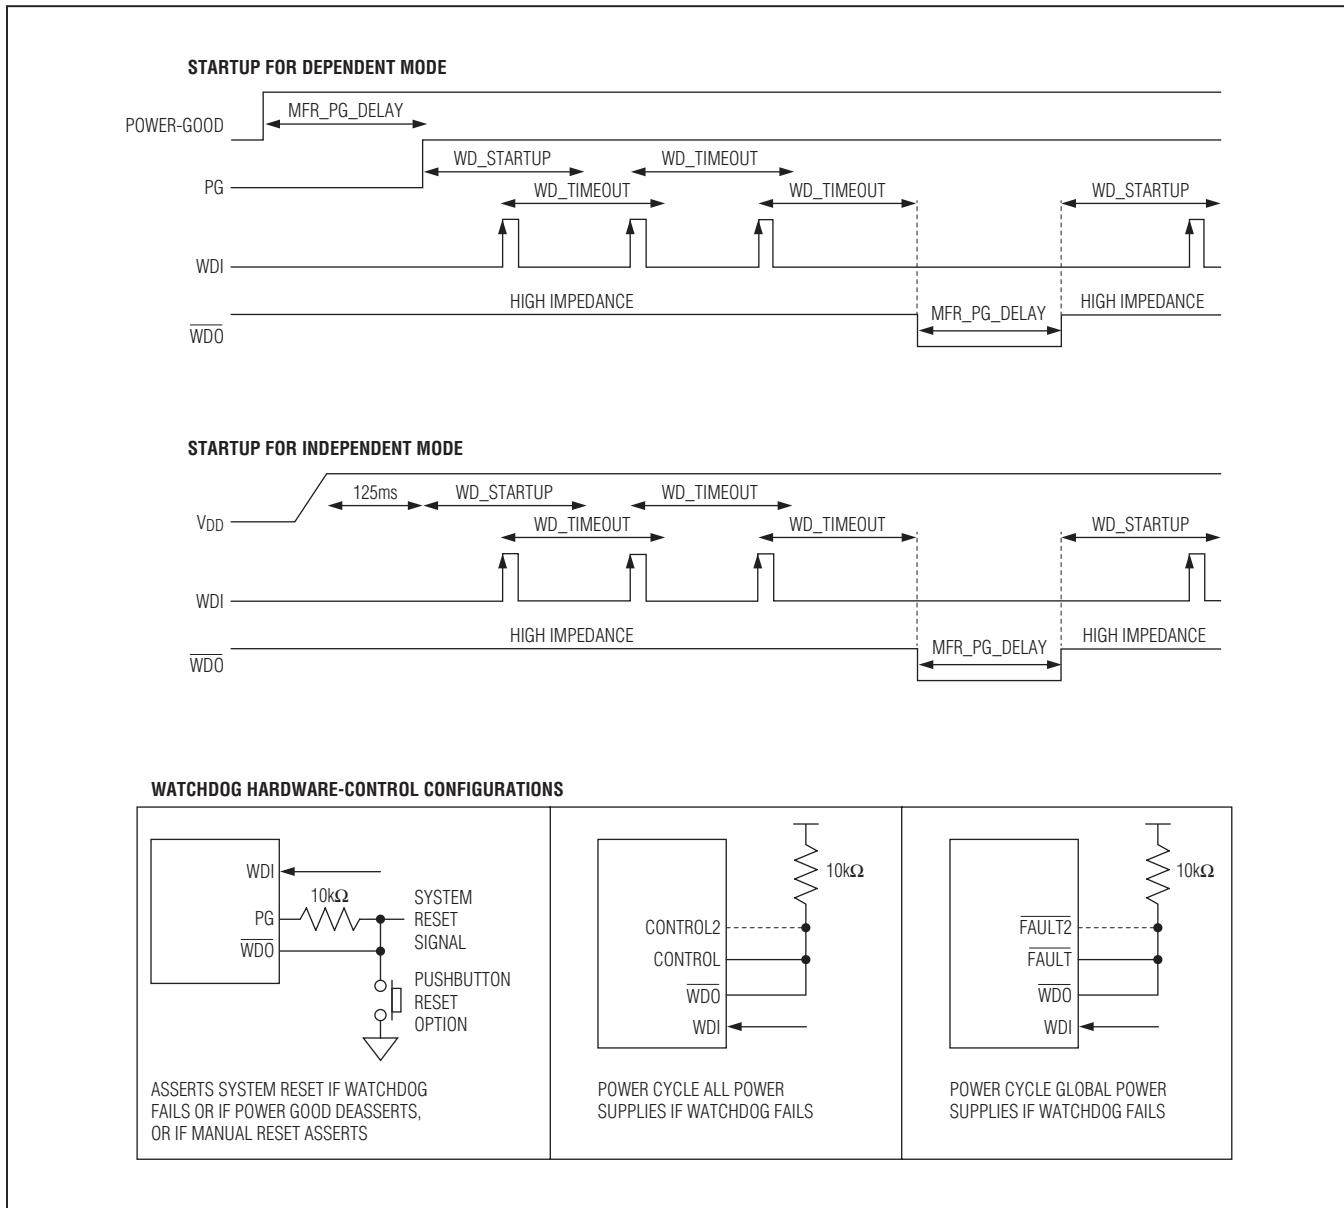

Figure 4. External Watchdog Operation
In both dependent and independent modes, the **WDO** pin can also be configured to act as a manual-reset (MR) input. When the **WD_WDO_MR** bit is set in **MFR_WATCHDOG_CONFIG**, the **WDO** pin becomes a digital input/output pin that detects a falling edge, debounces the falling edge for a 200ms period, and then once the manual reset has been qualified, the device asserts the **WDO** output low for the time configured in **MFR_PG_DELAY** before releasing the pin and restarting the watchdog function. To prevent glitches from occurring in the reset signal, the device seizes the reset signal as soon as it qualifies the manual reset and holds the **WDO** output low for the **MFR_PG_DELAY** time. The **MFR_PG_DELAY** time should be configured for a time longer than the manual-reset pulse length. When the time configured in **MFR_PG_DELAY** expires, the device releases the reset signal and restarts the watchdog as long as the pin is high. If the pin is low when the **WDO** pin is released, the device waits for the pin to go high (debounced by 20ms) before restarting the watchdog function. See Figure 4.